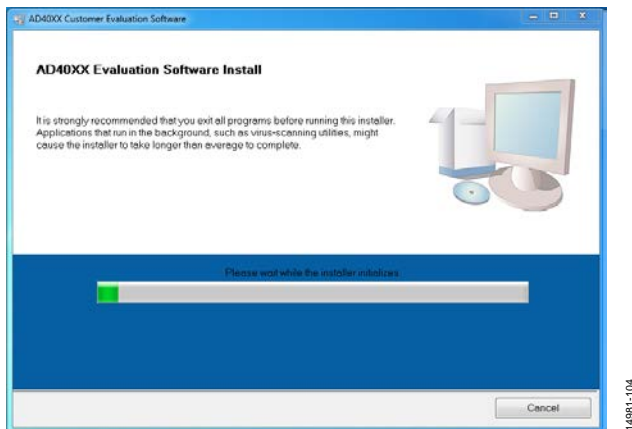

Figure 4. AD40XX Evaluation Software Install Window
3. Begin installing the evaluation software by clicking the **setup.exe** file. The software installation window opens as shown in Figure 4.